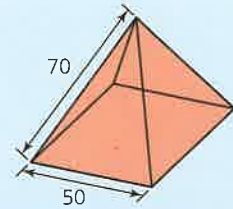

Figure 3.40 A luxury chocolate box
- b** A luxury chocolate manufacturer is considering packaging a product in a square-based pyramid-shaped container, as in Figure 3.40. Calculate the surface area of the packaging in mm^2 .